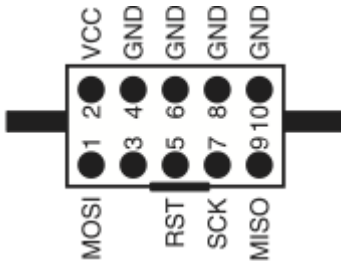

Fig. 1. Output connector pin layout
- 10-pins IDC output header, Atmel standard pinout (Fig. 1)